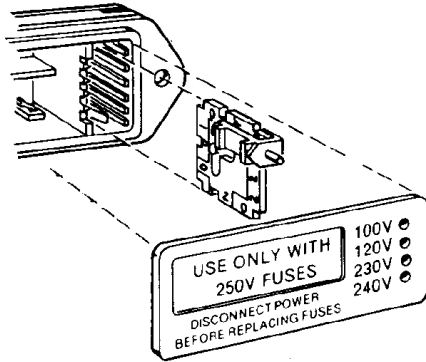

Figure 4. Changing the mains power supply voltage.
- The voltage selector card is a small circuit board fitted with a white plastic indicator pin, installed in a housing on the right side of the Power Entry Module as shown in Figure 4. Pull the voltage selector card straight out of the housing, using narrow pliers to